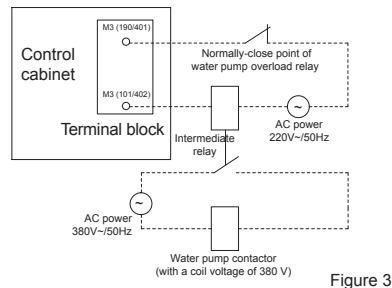

Figure 3
- The water pump control output signal can be used as the operating status signal output of unit. If M3(401) and M3(402) are connected to an external water pump contactor, the operating status signal of unit can be obtained from the auxiliary normally-open contact of water pump contactor.
- When the unit is under remote power-on/off control, the unit switch Q0 on the unit control cabinet must be at the closed position, the unit is controlled through the external remote switch on M3(58) and M3(59), and the short piece between M3(58) and M3(59) needs to be removed.
- The failure and water pump output contact can bear the maximum 230V/2A AC only. If the water pump contactor uses the 380V coil or coil of exceeding 2A capacity, conversion is needed. See Figure 3.